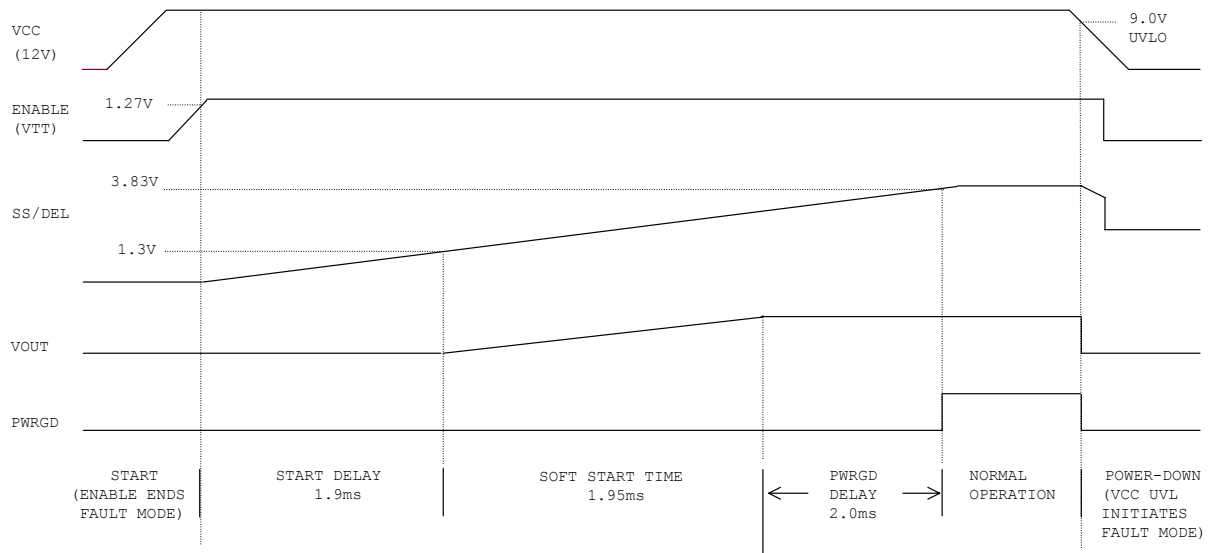

Figure 10 – Start-up Waveforms
The IR3082PbF has a programmable soft-start function to limit the surge current during the converter start-up. A capacitor connected between the SS/DEL and LGND pins controls soft start as well as over-current protection delay and hiccup mode timing. A charge current of 66 μ A and discharge current of 6 μ A control the up slope and down slope of the voltage at the SS/DEL pin respectively. Soft start-up waveforms are shown in Figure 10.
The SS/DEL pin voltage controls the slew rate of the converter output voltage, as shown in Figure 10. After the ENABLE pin voltage rises above 1.23V, there is a soft-start delay time t_{SSDEL} , after which the error amplifier output is released to allow the soft start. The soft start time t_{SS} represents the time during which the output voltage rises from zero to V_o . t_{SS} can be programmed by an external capacitor, which is determined by Equation (1).